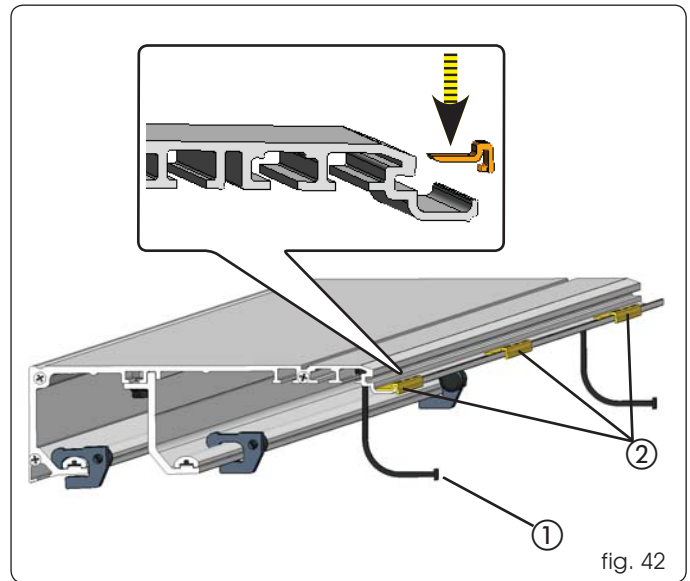

fig. 42
Check if the parachute cables are present, and, if necessary, secure them on the two ends of the support profile, housing the bigger end of the cable in the seats (Fig. 42 ref. ①).
Check if the three anti-vibration spacers (Fig. 42 ref. ②) are present, and, if necessary, insert them on the outer edge of the support profile, positioning them at the ends and centrally.